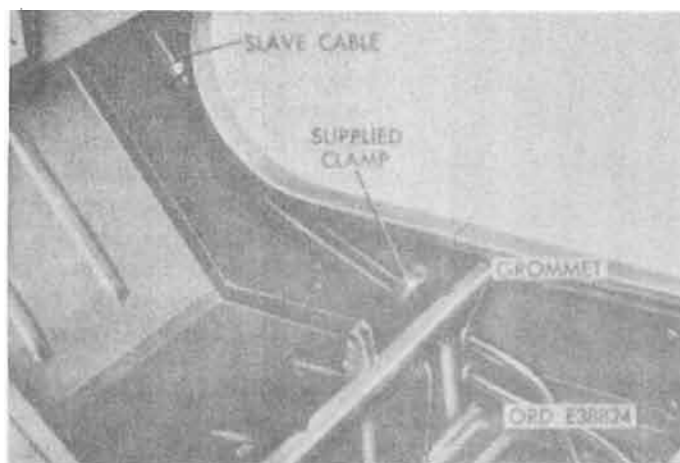

Figure 18-46. Slave receptacle cable installed.
e. Install grommet in $7/8$ -in. diameter hole in right seat riser (fig. 18-46).
g. Secure receptacle and battery cables to right body side with supplied clamp and original screw, washers, and nut (fig. 18-46).
f. Check operation of battery compartment damper actuator. With a temperature of approximately 100°F. , in the battery compartment, the actuator should close the damper. When the temperature in the battery box drops to approximately 70°F. , the actuator should open the damper, permitting heated air to again flow to the batteries. Perform test by removing battery compartment and battery box covers after the damper door has closed. This will allow the thermostat to cool more rapidly, causing the actuator to open the damper. If the damper opens when it should close, reverse the thermostat lead wire connections at the terminal strip of the actuator (fig. 18-46). Repeat test.
(1) Remove five-pin connector plug from control box.
(2) Press indicator light. Maintain finger pressure on light. Pull circuit breaker reset button out to "open" position, using fingernail pressure under the lip of button. Indicator light should go out. Push reset button. Indicator light should come on. Release indicator light.